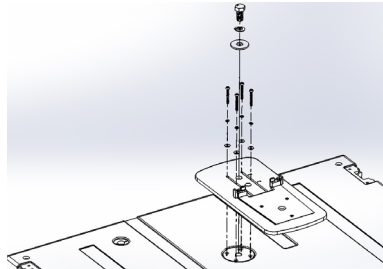

Figure 5 - Attach Mount Plate
### 3. Attach Mount Plate (D) to the top of SBX218/SBX118/RSX18F (Figure 5)
- Lock into place with M6 screws (H), lock washer (I) and flat washer (J)
- Secure mount with M20 Screw (E), lock washer (F) and flat washer (G)